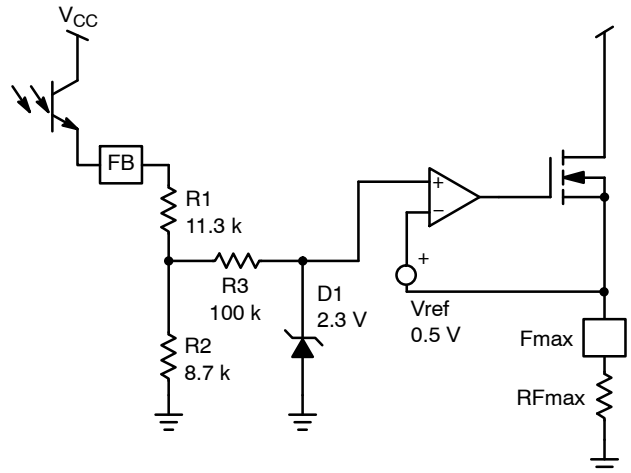

Figure 26. The OPAMP Arrangement Limits the VCO Modulation Signal between 0.5 and 2.3 V
The designer needs to program the maximum switching frequency and the minimum switching frequency. In LLC configurations, for circuits working above the resonant frequency, a high precision is required on the minimum frequency, hence the  $\pm 3\%$  specification. This minimum switching frequency is actually reached when no feedback closes the loop. It can happen during the startup sequence, a strong output transient loading or in a short-circuit condition. By installing a resistor from Pin 4 to GND, the minimum frequency is set. Using the same philosophy, wiring a resistor from Pin 2 to GND will set the maximum frequency excursion. To improve the circuit protection features, we have purposely created a dead zone, where the feedback loop has no action. This is typically below 1.1 V. Figure 26 details the arrangement where the internal voltage (that drives the VCO) varies between 0 and 2.3 V. However, to create this swing, the feedback pin (to which the optocoupler emitter connects), will need to swing typically between 1.1 V and 5.3 V.
As shown on Figure 26, the internal dynamics of the VCO control voltage will be constrained between 0.5 V and 2.3 V, whereas the feedback loop will drive Pin 6 (FB) between 1.1 V and 5.3 V. If we take the default FB pin excursion numbers, 1.1 V = 50 kHz, 5.3 V = 500 kHz, then the VCO maximum slope will be: